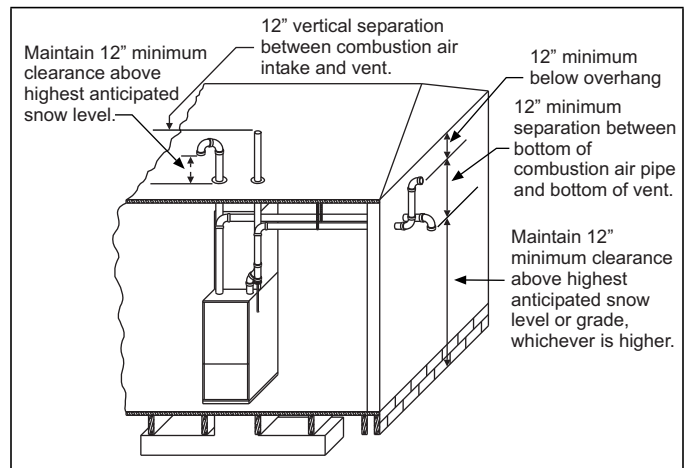

FIGURE 24: Termination Configuration - 2 Pipe
7. Direct vent systems must be installed so the vent and the combustion air pipes terminate in the same atmospheric zone. Refer to Figures 24 and 25.
1. **OUTDOOR COMBUSTION AIR:** This is a direct vent configuration where the combustion air is supplied through a PVC or ABS pipe that is connected to the PVC coupling attached to the furnace and is terminated in the same atmospheric zone as the vent. This type of installation is approved on all models. Refer to Figures 24 and 25.